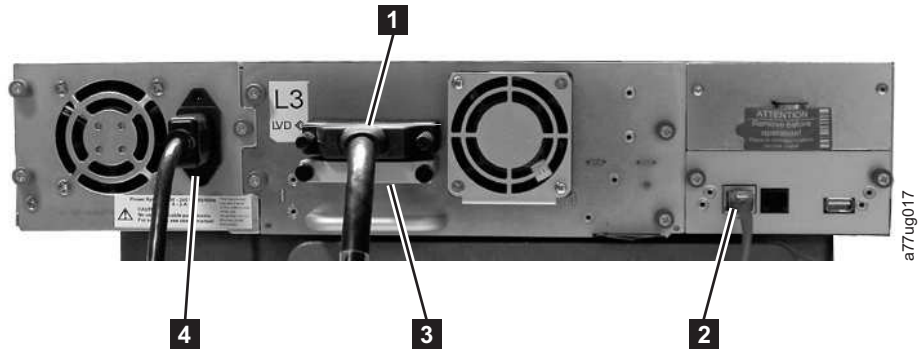
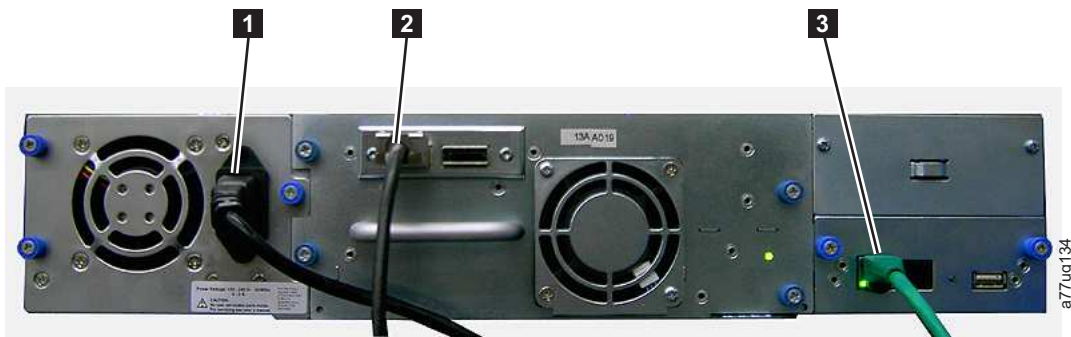

Figure 37. Attaching a SCSI host interface cable to the 2U library
Figure 39. Attaching a SAS interface cable to the 2U library
2. For a SCSI library, attach one end of the host interface cable to one of the connectors on the back panel of the library (see **1** in Figure 37 on page 51). For a Fibre Channel library, attach one end of the host interface cable to the connector on the back panel of the library (see **4** in Figure 38 on page 51). For a Serial Attached SCSI (SAS) connected library, attach the host end of the SAS cable to the SAS HBA (see **2** in Figure 39 on page 51). Full high drives will have dual SAS connectors. Half high drives will have one SAS connector. Unused SAS connectors do not need to be terminated.
- For a SCSI library, connect the host interface cable to the connector on the SCSI host bus adapter or to the connector on the previous device on the SCSI bus. Attach the terminator (**3** in Figure 37) to the remaining SCSI connector on the back panel of the library, if the library is the last or only
4. Plug the network ethernet cable (**2** in Figure 37 on page 51, **5** in Figure 38 on page 51, or **3** in Figure 39 on page 51) into the ethernet port on the back panel of the library. If the ethernet connection is directly attached to a server or laptop, a crossover ethernet cable may be required.